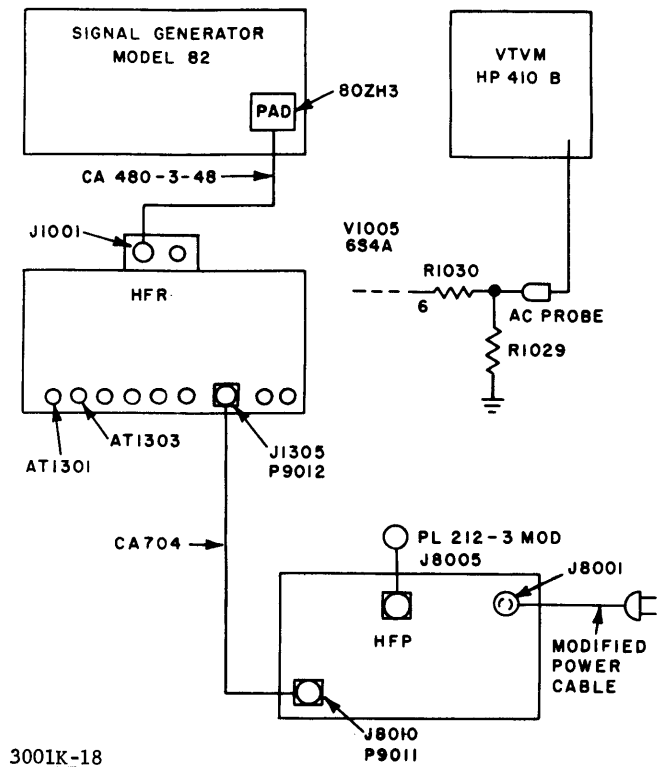

Figure 5-4. Connection Diagram, Testing RF Chain
(1) Connect HFR to power supply (HFP) as shown in connection diagram figure 5-4.
(2) Set TUNE/SYNC/OPERATE and NOISE SILENCER/OFF/ALIGNMENT SIGNAL controls of HFR at TUNE and OFF respectively.
(3) Connect signal generator and VTVM as shown in connection diagram figure 5-4.